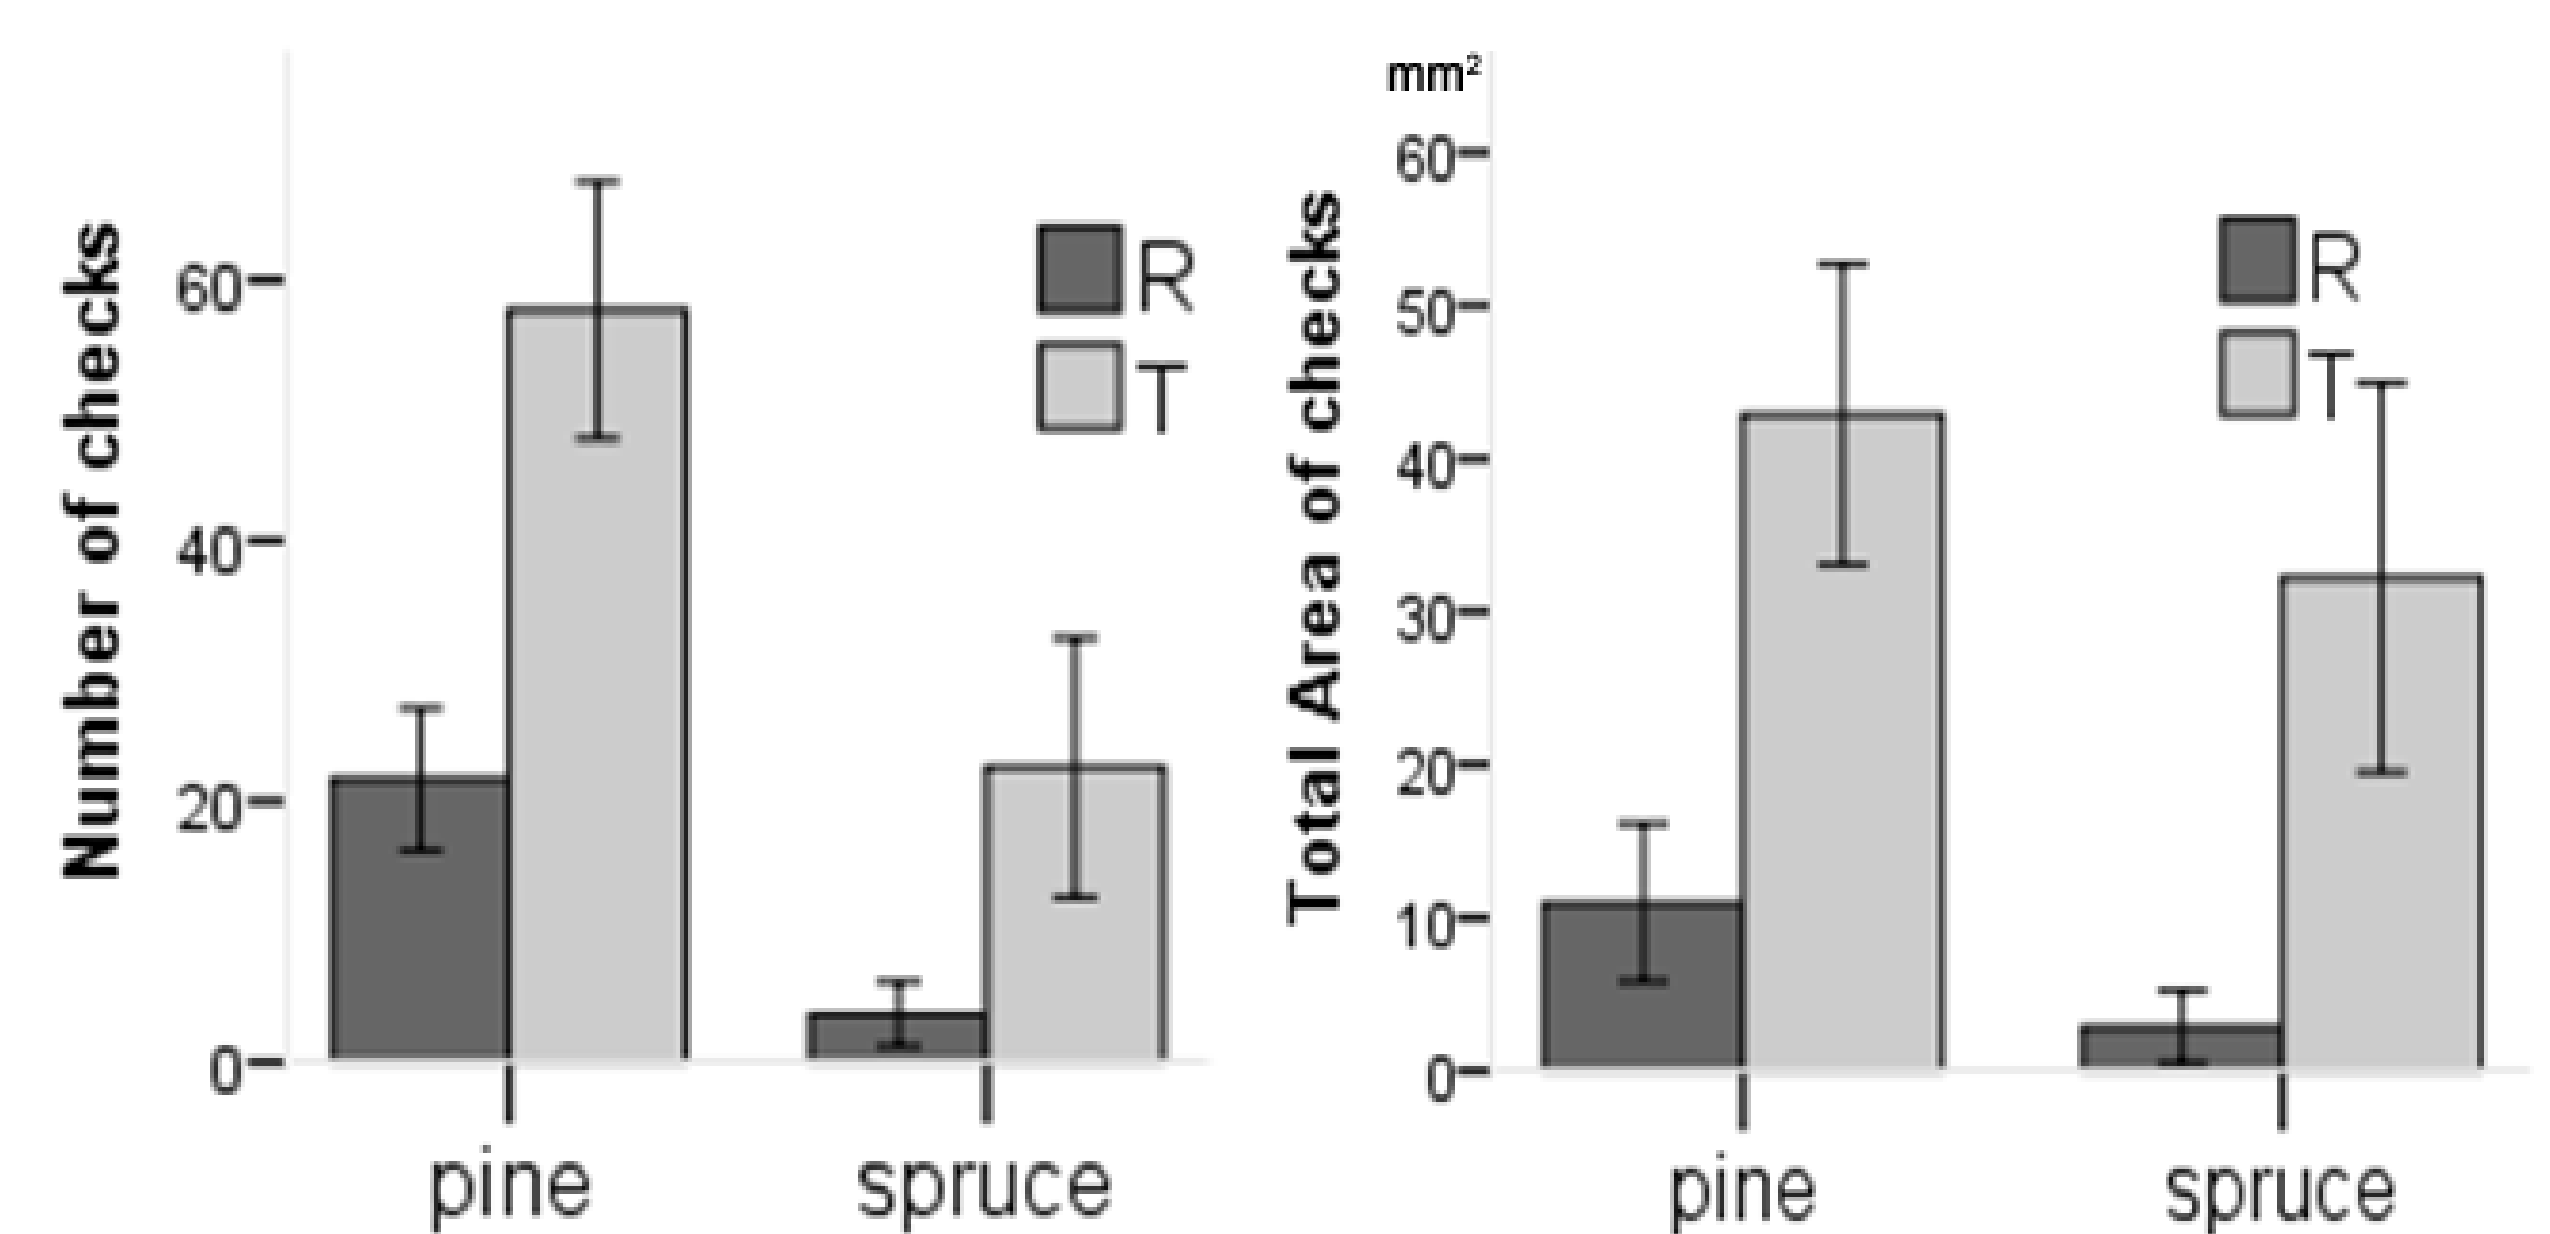

Figure 1. Checking performance of radially (R) and tangentially (T) sawn Scots pine and Norway spruce wood. (Venäläinen et al. 2016)
- Radial sawing is an effective method to promote the quality of cladding timber (see Figure 1)